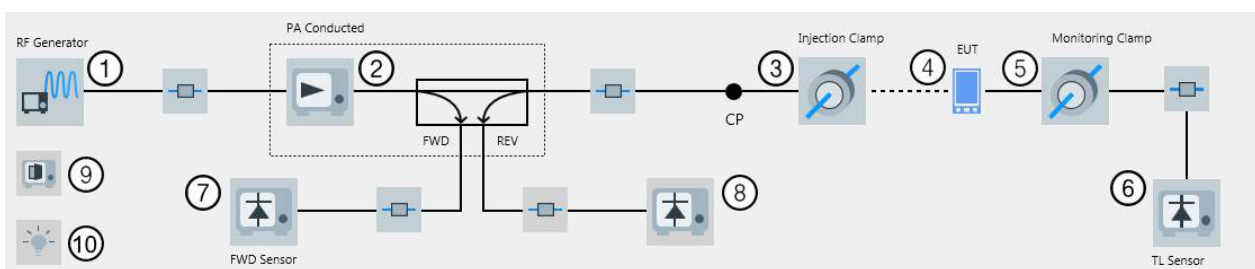

Figure 4-147: EMS hardware setup diagram (conducted) for BCI in EUT Test View
- The "EUT Test View" (see Figure 4-147)
In a typical BCI setup, the EUT's output is monitored by a transducer and TL sensor not only during calibration, but also during the test. Monitoring the live current with a monitoring clamp as in Figure 4-147 ("EUT Test View") allows controlling and limiting the forward power. Or, when you use the Substitution Method, it allows limiting the current.